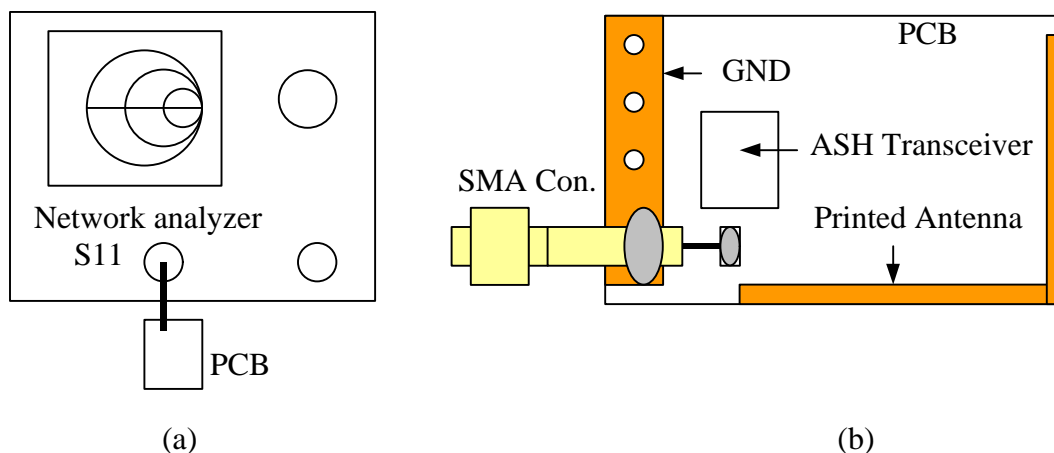

Fig. 1
- b. **Calibration:** Set the network analyzer to the Smith Chart display (of  $S_{11}$ ) and set the sweep center frequency to the operating frequency of the ASH transceiver. Connect the SMA connector with the coaxial cable and the PCB to the network analyzer (see Fig. 1(a)) and calibrate for an “open”. Then connect the coaxial cable center conductor to the shield and calibrate for a “short”. Connect a 50 ohm resistor from the coaxial cable center conductor to GND for “load” and then “done”. It is then best to recheck the calibration result for “open and “short” again.